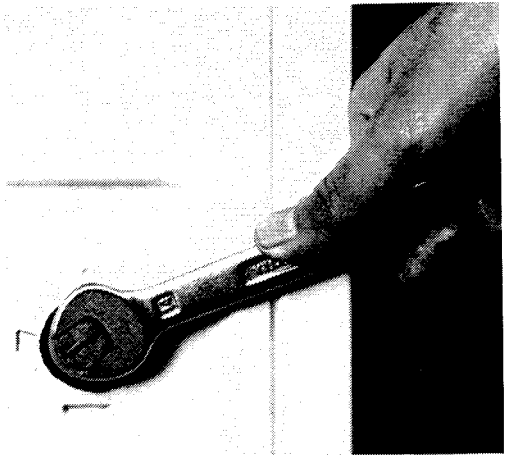

fig. 1
1. Undo and remove the four screws from the back of the appliance (fig. 1).